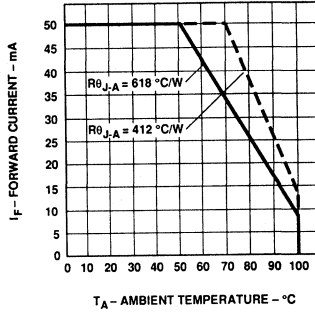

Figure 4. Maximum Forward Current vs. Ambient Temperature. Derating Based on $T_{j, Max} = 110^{\circ}\text{C}$.
1. Derate linearly as shown in Figure 4.